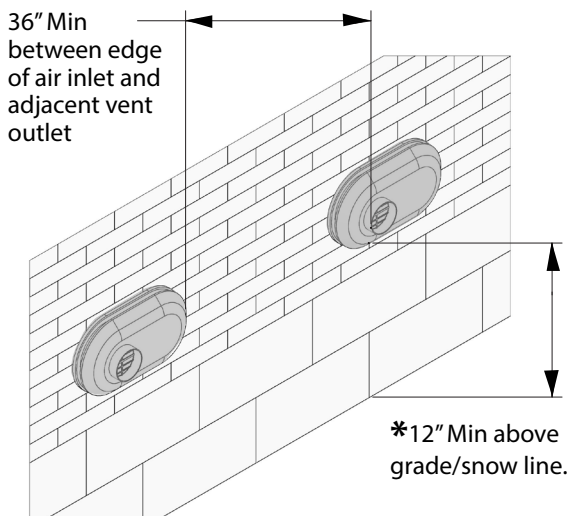

Figure 13. Multiple Low Profile Terminations
2. Multiple low profile terminations must be installed with a minimum horizontal separation between the edge of the air inlet and the edge of the vent of the adjacent termination of at least 36 inches (90 cm). See Figure 13.